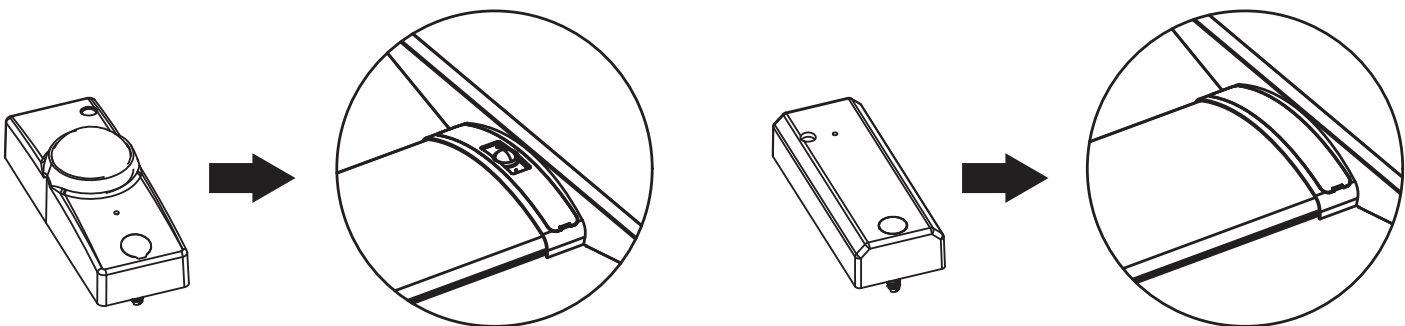

Fig. 5
4. Place sensor cover (included) to complete installation of sensor. (see Fig. 5)
Note: Appropriate sensor cover must be used for step 4. (see Fig. 5)